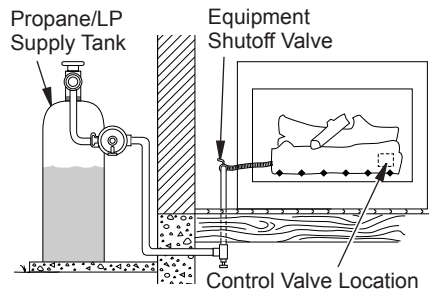

Figure 19 - Checking Gas Joints (Propane/LP Model Shown)
3. Check all joints from gas meter to equipment shutoff valve for natural gas or propane/LP supply to equipment shutoff valve for propane/LP (see Figures 19 and 20). Apply noncorrosive leak detection fluid to all joints. Bubbles forming show a leak.
4. Check all joints from equipment shutoff valve to control valve (Manually-Controlled Models), or to gas control (Remote-Ready Models) (see Figures 19 and 20, page 15). Apply noncorrosive leak detection fluid to all joints. Bubbles forming show a leak.